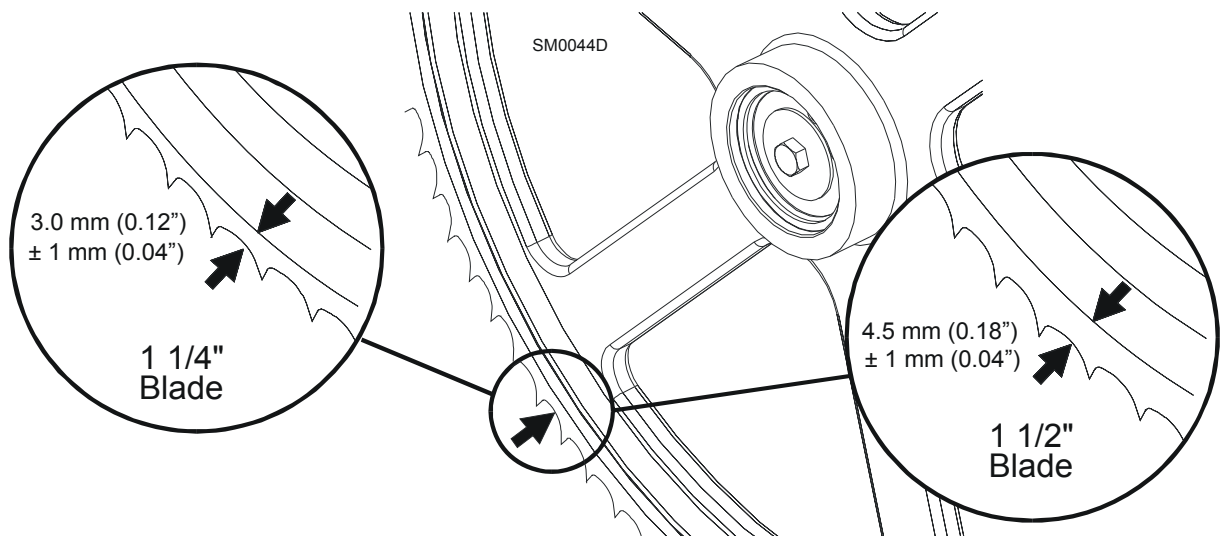

FIG. 6-2
**See Figure 6-2.** The blade wheels should be adjusted so that the gullet of 1 1/4" blades rides 3.0 mm (0.12") out from the front edge of the wheels ( $\pm 1.0$  mm [0.04"]). The gullet of 1 1/2" blades should ride 4.5 mm (0.18") from the front edge of the wheels ( $\pm 1.0$  mm